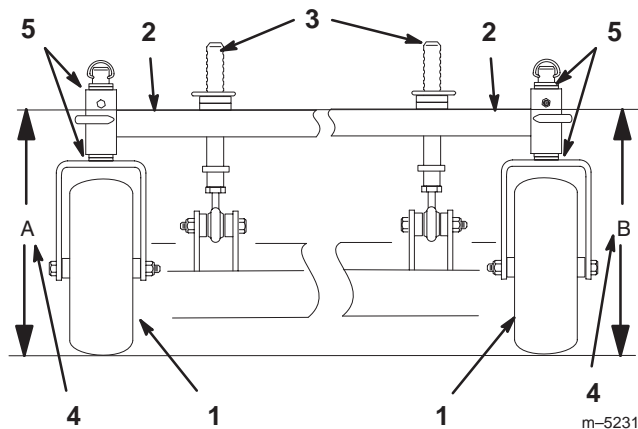

Figure 49
3. Measure carrier frame height at location "A" (Fig. 49).
4. Measure carrier frame height at location "B" (Fig. 49).